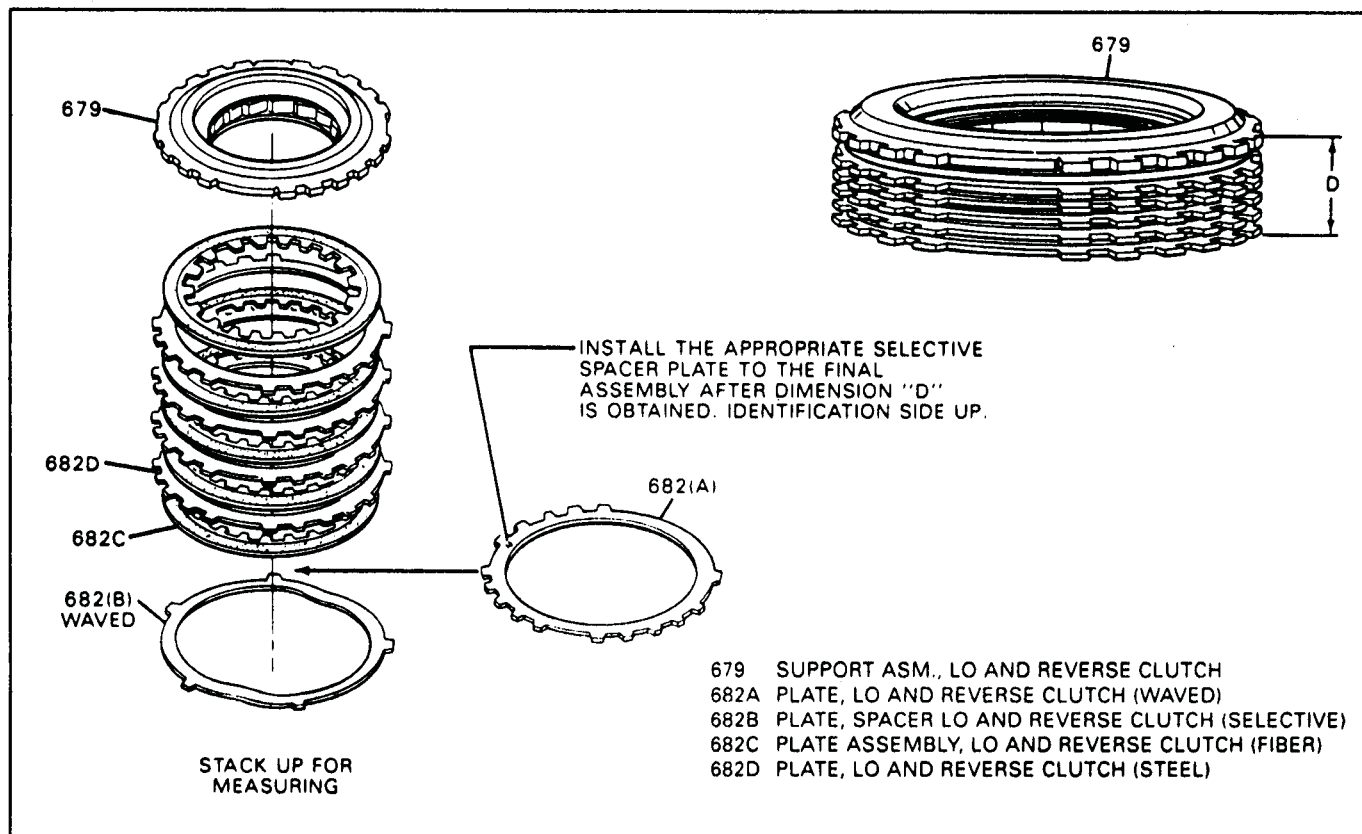

Figure 70
1. To measure for the proper selective spacer plate, stack the lo/reverse assembly on a flat work surface, as shown in Figure 70, in the following order:
3. Measure the height of the clutch pack from the work surface to the top of the Lo/Reverse clutch support. This will be dimension "D", as shown in Figure 70.